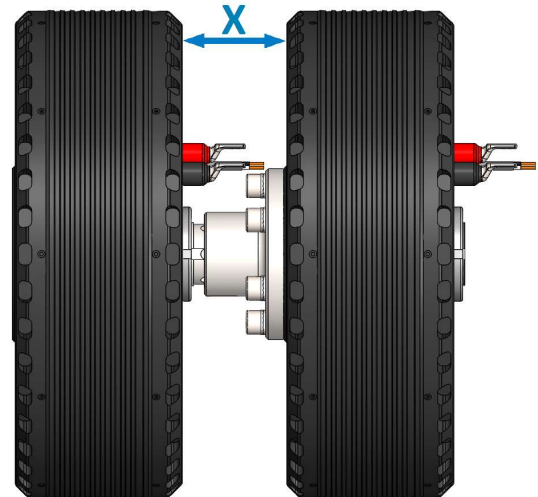

Figure 25: Distance between the motors
3. Slide the two motors together. It is prohibited to use excessive force or hammer during this step. The distance between the two motors (see Figure 25) must be as specified in the next table.
Motor type	Distance X [mm] (Figure 25)